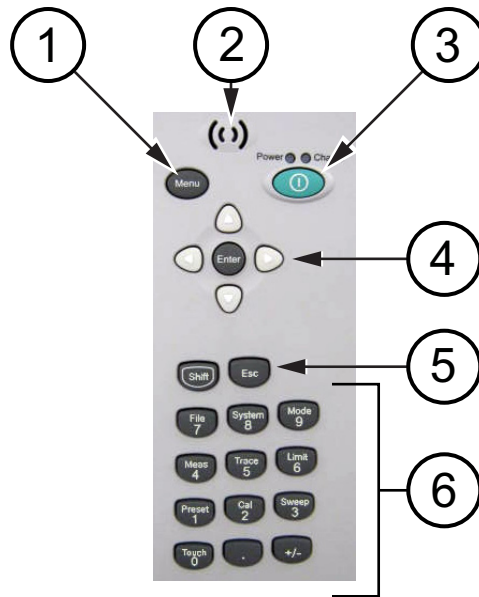

Figure 2-2. Front Panel Layout
(item 1 in Figure 2-2)
(item 3 in Figure 2-2)
(item 4 in Figure 2-2)
(item 5 in Figure 2-2)
(item 6 in Figure 2-2)